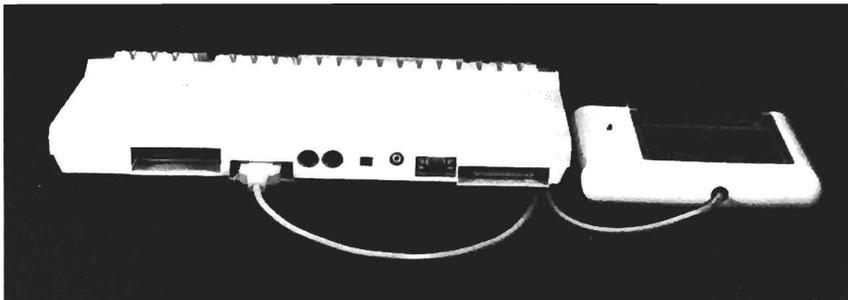

Fig. 5-5. Cassette drive interface connection.
- If the Commodore system is on and functioning, and the power receptacle is working fine, then check the cabling. As noted, the VIC Datasette drive cable is a combination power cable and interface cable. A standard cassette drive has its own power cable connected into the AC wall socket, and a separate interface cable. In both cases, the interface cable runs from the back edge of the cassette drive into an edge connector on the back of the Commodore system unit (Fig. 5-5). Check that the cable is properly attached to the edge connector.